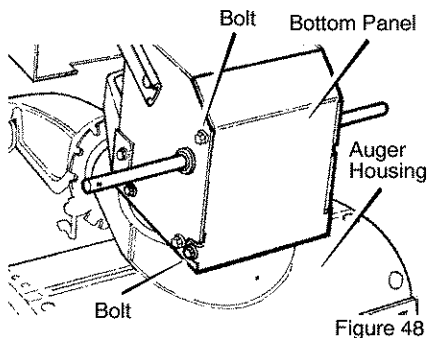

Figure 48
2. Stand the snow thrower up on the front end of the **auger housing** (see Figure 48).
4. Loosen the **bolts** on each side of the **bottom panel** (see Figure 48).
6. Install the **bottom panel** (see Figure 48).
2. Stand the snow thrower up on the front end of the **auger housing**. (see Figure 48).